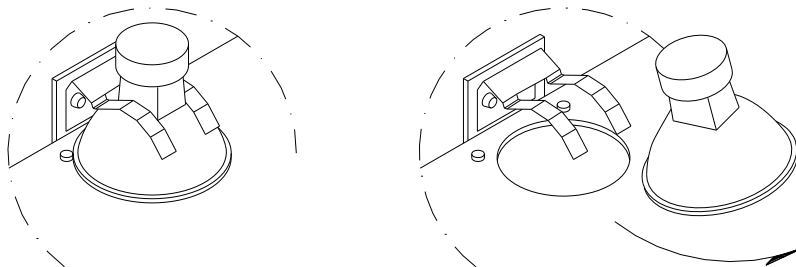

Figure 21 – Sliding out the Lamp
- slide out the lamp from its seat as shown in Figure 21